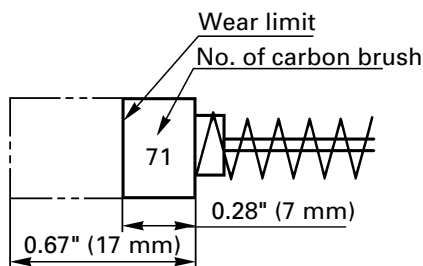

Fig. 20
4. Inspecting the carbon brushes: (Fig. 20)
NOTE: Use HITACHI carbon brush No.71 indicated in Fig. 20